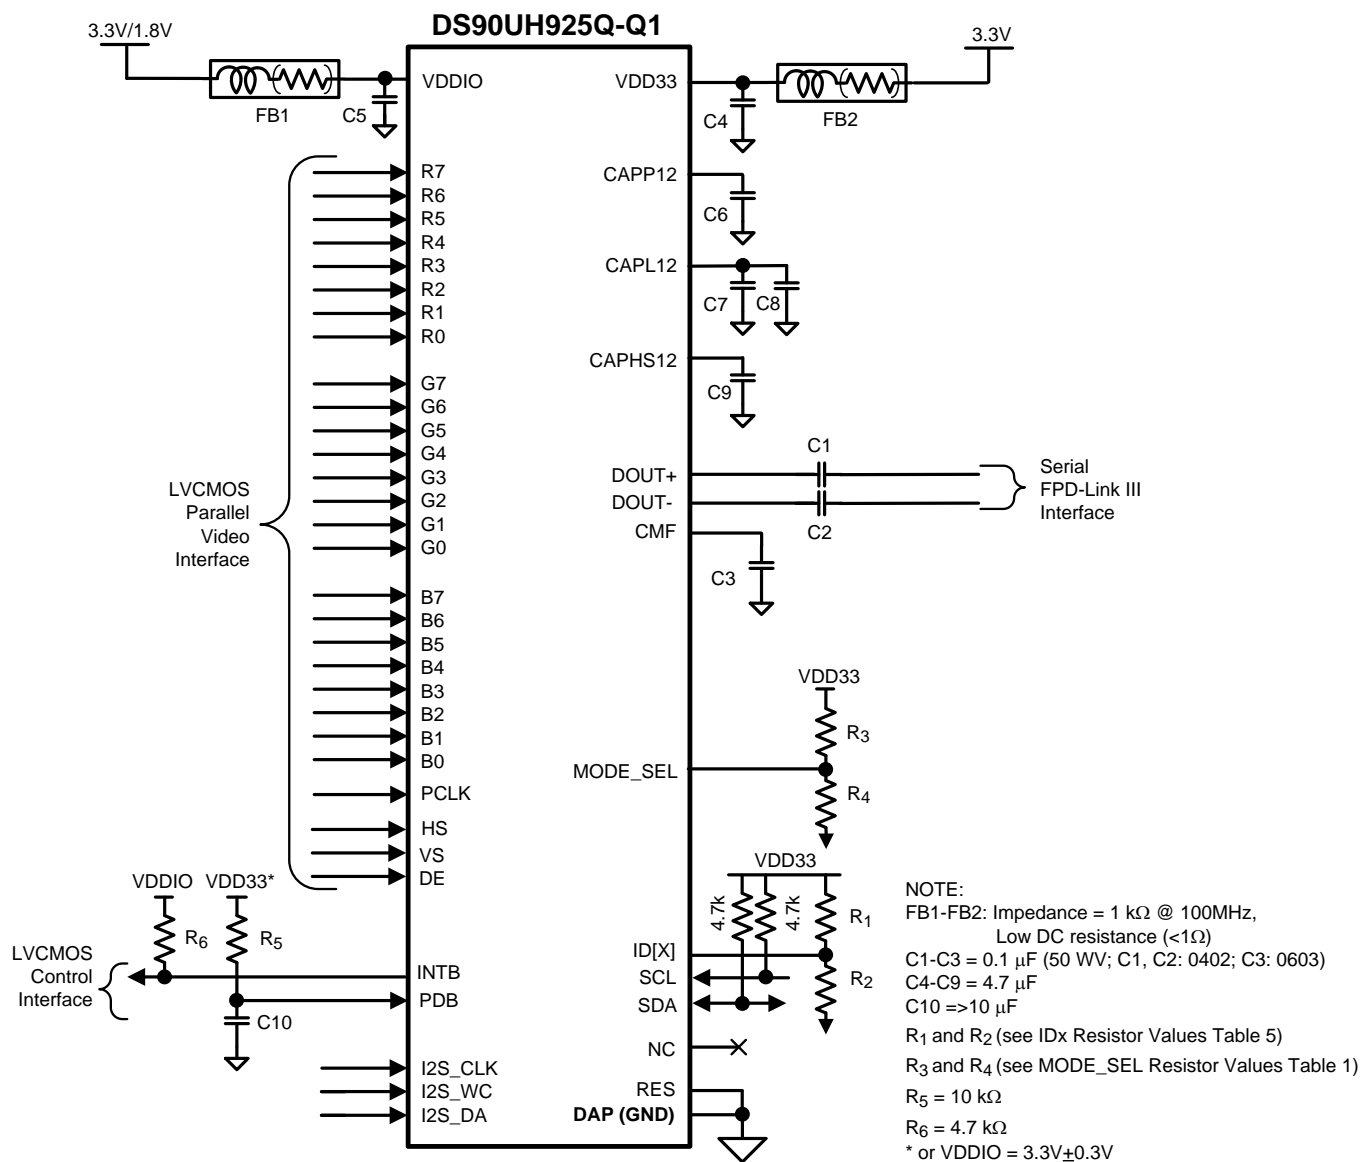

Figure 23. Typical Connection Diagram
Figure 23 shows a typical application of the DS90UH925Q-Q1 serializer for an 85 MHz 24-bit Color Display Application. The CML outputs must have an external 0.1 μF AC coupling capacitor on the high speed serial lines. The serializer has an internal termination. Bypass capacitors are placed near the power supply pins. At a minimum, six (6) 4.7μF capacitors (and two (2) additional 1μF capacitors should be used for local device bypassing. Ferrite beads are placed on the two (2) VDDs (V_{DD33} and V_{DDIO}) for effective noise suppression. The interface to the graphics source is with 3.3V LVCMOS levels, thus the V_{DDIO} pin is connected to the 3.3 V rail. A RC delay is placed on the PDB signal to delay the enabling of the device until power is stable.